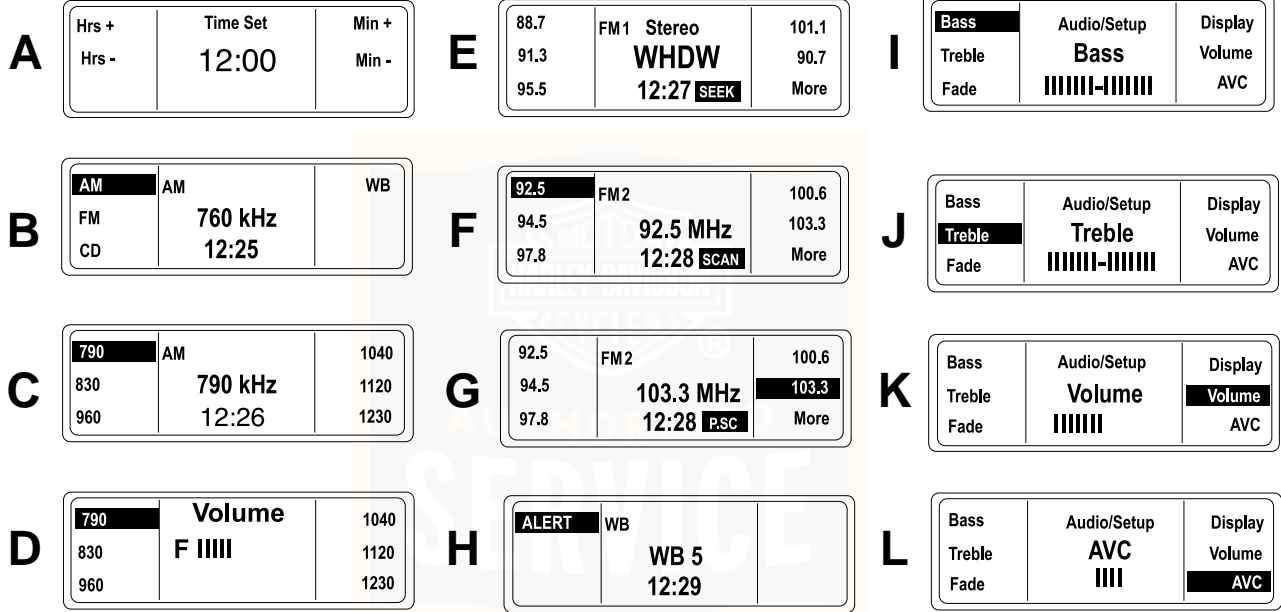

Figure 28. LCD Display Examples
See A in Figure 28. To increase the hours in the display press the Hrs+ soft key. To decrease hours press the Hrs- soft key. When the hour is correct, release the soft key.
See B in Figure 28. The LCD highlights the selected band.
See D in Figure 28. At any time the receiver is playing, the volume can be adjusted by pressing the **AUDIO** switch up (+) to increase volume or down (-) to decrease volume.
See E in Figure 28. Normally, the Advanced Audio System plays FM signals in stereo. The LCD will indicate **STEREO**.
See H in Figure 28. Broadcast by the National Oceanic and Atmospheric Administration (NOAA) National Weather Band (WB) frequencies are available in North America only.
See E in Figure 28. In SEEK, the radio tunes in to the next strong station.
See F in Figure 28. Press and hold the **MODE SEL** switch **UP** or **DN** approximately 5 seconds to scan the band for strong station signals. Each strong station remains tuned in for 8
See *C* in Figure 28. AM can store 6 preset frequencies.
See *E* and *F* in Figure 28. Separate FM1 and FM2 bands allow the rider to store 2 sets of 5 preset FM frequencies (10 total). Use the **More** soft key to toggle between FM1 and FM2. The full range of FM frequencies can be selected in either FM1 or FM2.
See *G* in Figure 28. In preset SCAN, the radio continuously tunes from one preset station to the next until the preset SCAN is cancelled. A P.SC icon will display while preset SCAN is active.
See *D* in Figure 28. Volume is adjusted with the **AUDIO** switch on the left hand grip. Using left thumb, press the **AUDIO** switch up (+) to raise the volume or down (-) to lower the volume. The LCD displays the word Volume and a bar graph that changes length with the volume.
See K in Figure 28. Volume can also be adjusted in Audio/Setup.
BASS: See I in Figure 28. Press **AUDIO** to display Bass Audio/Setup. Using the left thumb, press the **AUDIO** switch up (+) to increase the bass range or down (-) to lower the bass range. The LCD displays the word Bass and a dashed line that changes length with the setting. The short center dash indicates a middle setting.
TREBLE: See J in Figure 28. From Bass Audio/Setup, press and release **AUDIO** to sequence to Treble. Using the left thumb, press the **AUDIO** switch up (+) to increase the treble range or down (-) to lower the treble range.
See J in Figure 28. The LCD displays the word Treble and a bar graph that changes length with the setting. The short center dash indicates a middle setting.
See L in Figure 28. Automatic Volume Control (AVC) automatically adjusts volume level to compensate for ambient noise associated with motorcycle speed.